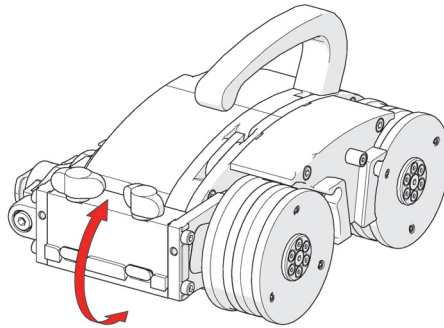

Figure 2-29 Swivel mount angle
4. The front mount pivots freely and cannot be locked in a fixed position (see Figure 2-29 on page 69). When a frame bar is connected to both dovetail mounts on the two modules, this free movement allows the scanner to flex while steering.